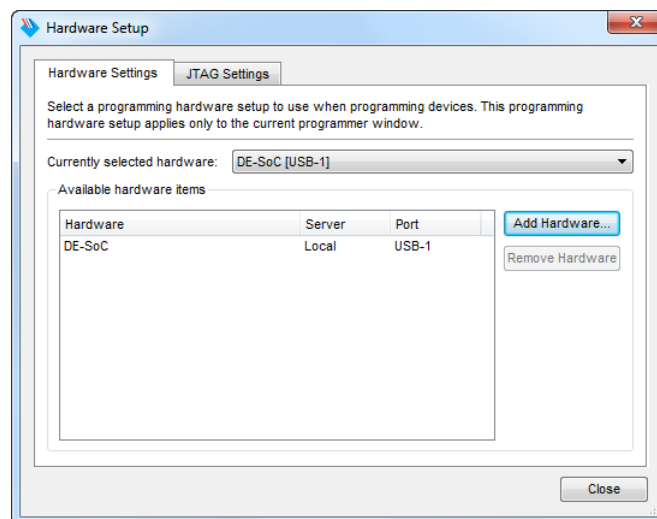

Figure 11. Setting up hardware.
- For SignalTap II to work, we need to properly set up the hardware. First, make sure the DE-series board is plugged in and turned on. In the Hardware section of the SignalTap II window, located in the top right corner, click **Setup...**, bringing up the window in Figure 11. Double click DE-SoC in the Available Hardware Items menu, then click **Close**. If you are using a DE0-CV, DE0-Nano, DE2-115, or the DE10-Lite, you will select USB-Blaster from the Available Hardware Items menu.